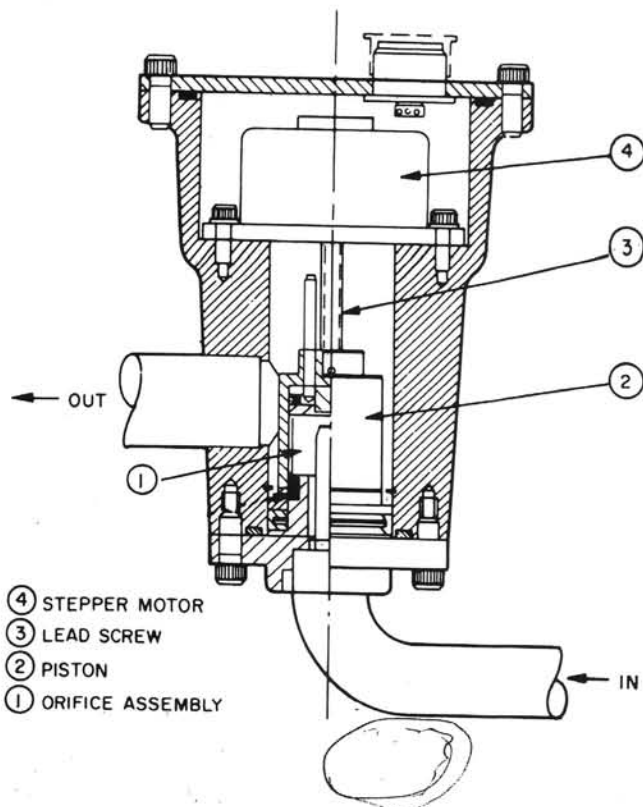

Fig. 17 – Electronic Expansion Valve
The chiller is equipped with the new Carrier-designed electronic expansion valve (EXV). A cut-away drawing of the valve is shown in fig. 17.
4. Note position of lead screw (see fig. 17). If valve has responded properly to processor signals in Step 5.1. above, valve should be fully open and lead screw should protrude approximately 1/4 in. (6 mm) to 3/4 in. (19 mm) above top of motor.